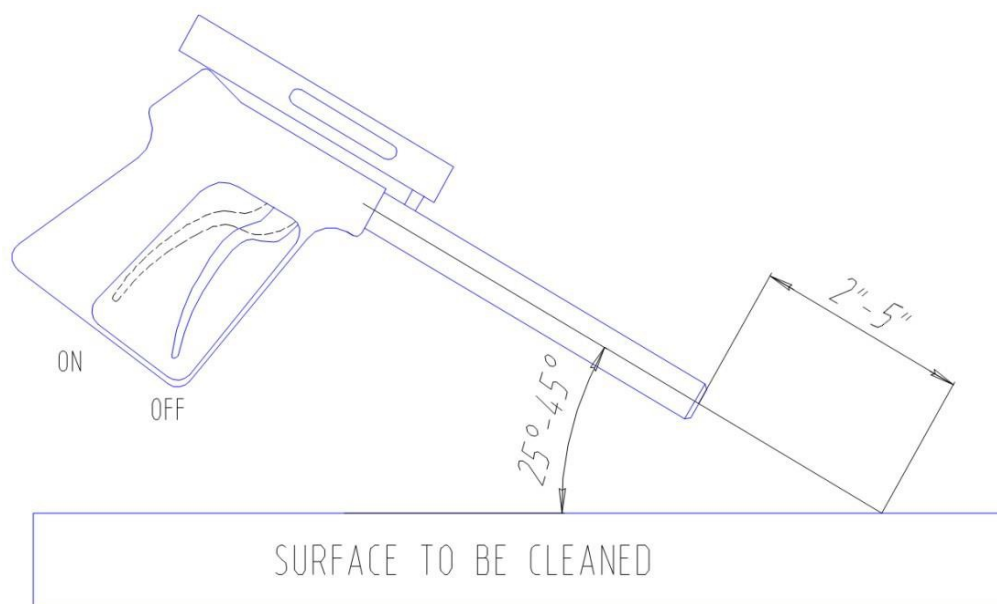

Figure 5.3 – Zero-Thrust Gun Position for Best Results
9. Pull the gun trigger to the open or “ON” position (See **Figure 5.3**).
2. Activate the cleaning cavitation stream by squeezing the trigger to the open or “ON” position (See **Figure 5.3**). Release trigger to stop the water flow and direct to bypass.
3. If the diver operating the unit must be replaced or the cleaning operation must be interrupted or terminated, turn the unit off and then release the water pressure in the hose(s) by squeezing the gun trigger to the open or “ON” position (See **Figure 5.3**) while under water. Revert to step 5.2 of the operating instructions when the diver or replacement is ready to continue cleaning.
7. Pull the gun trigger to the open or "ON" position (See **Figure 5.3**).
When the diver is ready to commence cleaning operations, ensure that the zero-thrust gun trigger is in the open or “ON” position (See **Figure 5.3**), the zero-thrust gun is submerged in the water and the feed pump is operating prior to starting the electric motor. Ensure that the power unit operator and other people working in the vicinity of the power unit wear appropriate hearing protection when the unit is running.
2. The most efficient operating technique is to hold the nozzle 2-5 inches (5-12 cm) away from the surface to be cleaned and at a 25-to-45-degree angle to the surface being cleaned (See **Figure 5.3**). The diver needs to observe the shape of the cavitating jet cone. At greater depths, the higher ambient pressure will cause the jet cone to be shorter. The widest zone of the cone is the most efficient part of the cavitating jet. Placing the nozzle closer than 2 inches (5 cm) from the surface being cleaned will not allow for efficient cavitation performance and will degrade the cleaning capability of the CaviBlaster system.
4. If the diver operating the unit must be replaced or the cleaning operation must be interrupted or terminated, turn the unit off and then release the water pressure in the hose(s) by squeezing the gun trigger to the open or “ON” position (See **Figure 5.3**) while under water. Revert to step 5.2 of the operating instructions when the diver or replacement is ready to continue cleaning.
5. Squeeze the gun trigger to the open or “ON” position (See **Figure 5.3**) to release the water pressure remaining in the hose(s) while the gun is submerged.